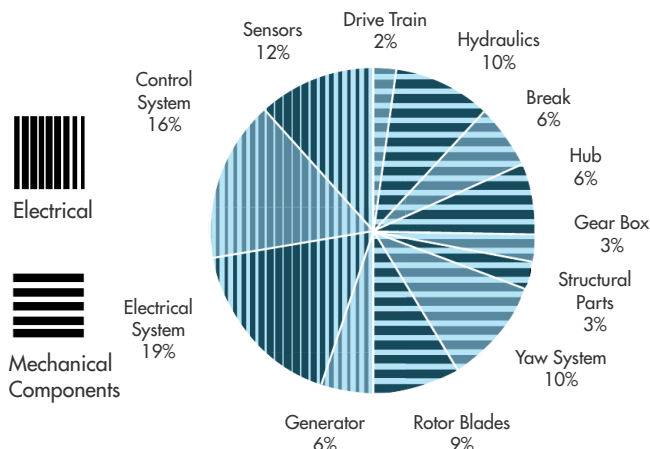

Figure 1: Component Failure for Wind Turbines
- d. Failure of the gearbox is a major concern due to the downtime involved, but the electrical system is the primary cause of failure for wind generators. Figure 1 shows relative failure rates of components based on a study performed by B. Hahn, Institut für Solare Energieversorgungstechnik in a paper titled Reliability Assessment of Wind Turbines in Germany. Other studies have shown a similar pattern.